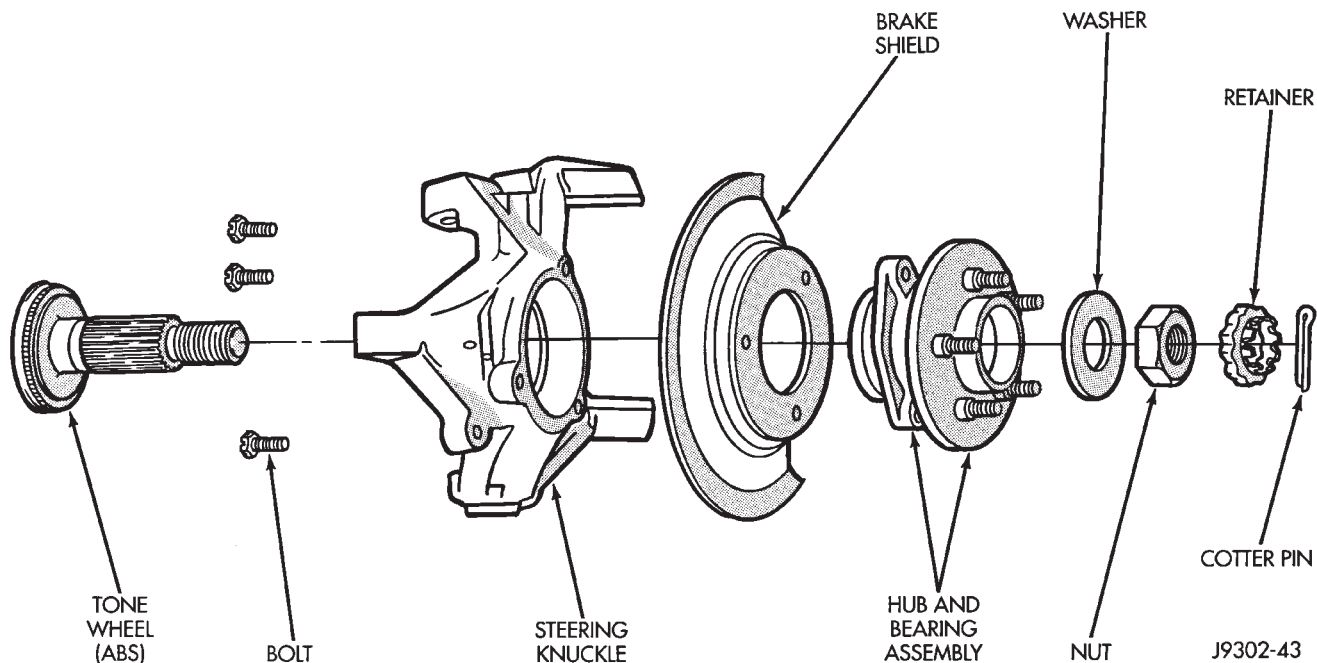

Fig. 6 Hub, Knuckle and Axle Shaft
- (1) Raise and support the vehicle.
- (2) Remove the wheels and tires.
- (3) Remove the brake components from the axle, refer to Group 5, Brakes.
- (4) Remove the cotter pin, nut retainer and axle hub nut (Fig. 6).
(5) Remove the hub to knuckle bolts (Fig. 6). Remove the hub from the steering knuckle and axle shaft.
(6) Remove the disc brake rotor shield from the bearing carrier (Fig. 6).
(7) On 4WD vehicles, remove the axle shaft from the housing. **Avoid damaging the axle shaft oil seals in the differential.**
(1) Thoroughly clean the axle shaft (Fig. 6) and apply a thin film of Mopar Wheel Bearing Grease to the shaft splines, seal contact surface, hub bore.
(2) On 4WD vehicles, install the axle shaft into the housing and differential side gears. Avoid damaging the axle shaft oil seals in the differential.
(3) Install the hub bearing and brake dust shield to the knuckle.
(4) Install the hub to knuckle bolts and tighten to 102 N•m (75 ft. lbs.) torque.
(5) Install the hub washer and nut. Tighten the hub nut to 237 N•m (175 ft. lbs.) torque. Install the nut retainer and a new cotter pin (Fig. 6).
(6) Install the brake components, refer to Group 5, Brakes.
(7) Install the wheels and tires.
(8) Lower the vehicle.